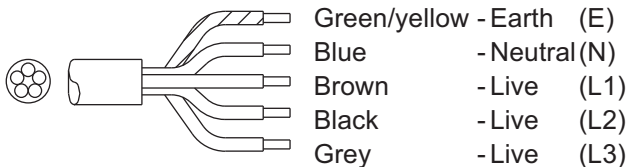

fig. 3
- (fig. 3) In case of 3N~ 380-415V (5-core cable).